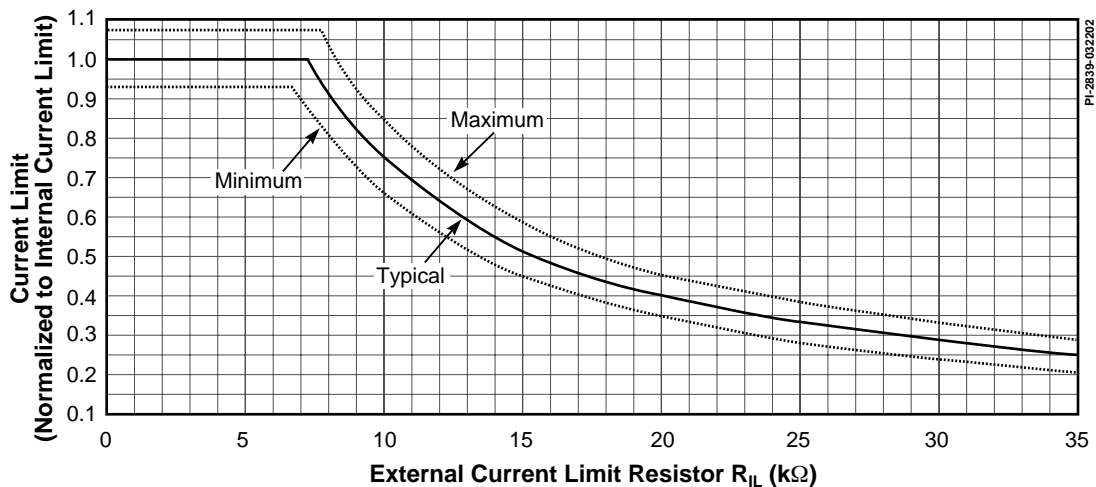

Figure 34. Current Limit vs. External Current Limit Resistance.
- B. For externally adjusted current limit values, please refer to Figure 34 (Current Limit vs. External Current Limit Resistance) in the Typical Performance Characteristics section.